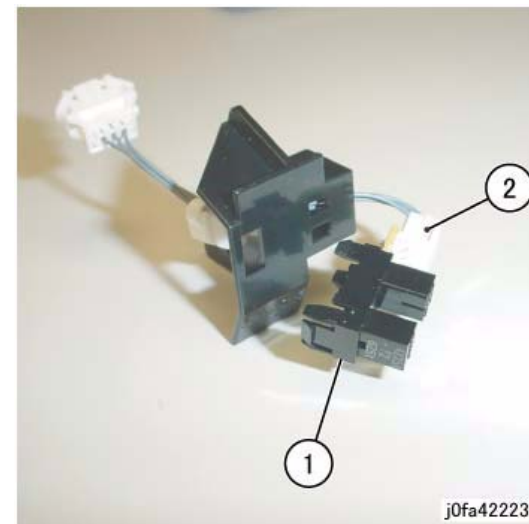

Figure 3 Removing the Set Clamp Home Sensor (j0fa42223)
5. Remove the Set Clamp Home Sensor. (Figure 3)